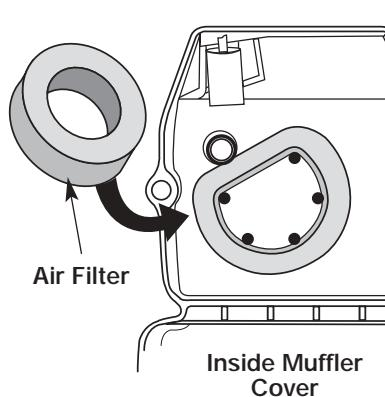

Fig. 34
2. Turn cover over and look inside to locate the air filter. Remove the air filter from inside the air filter/muffler cover (Fig. 34).
6. Replace the air filter inside the air filter/muffler cover (Fig. 34).